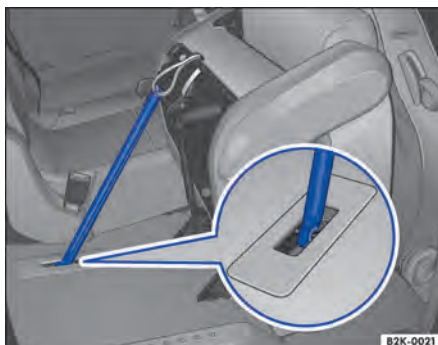

Fig. 68 Second row of seats: secure the seat folded forward with the rod.
3. Release the securing rod from the bracket and push the rod firmly into the seat anchoring until the securing rod engages → Fig. 68.